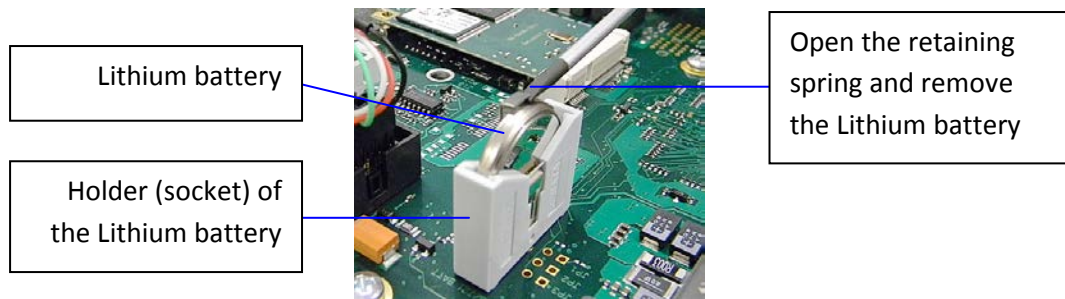

Fig. 29: Removing the lithium battery from the battery holder
2. The lithium CMOS battery is located in a holder on the CPU board (mainboard) of the CC300 operator panel (see Fig. 28, Pos. 8 and Fig. 29).
3. Open the retaining spring by pushing it to the side with a screwdriver and remove the lithium battery (see Fig. 29).
5. Pay attention to the polarity of the battery (the positive pole marked “+” is connected to the retaining spring) and make sure that the retaining spring is locked (see Fig. 29).